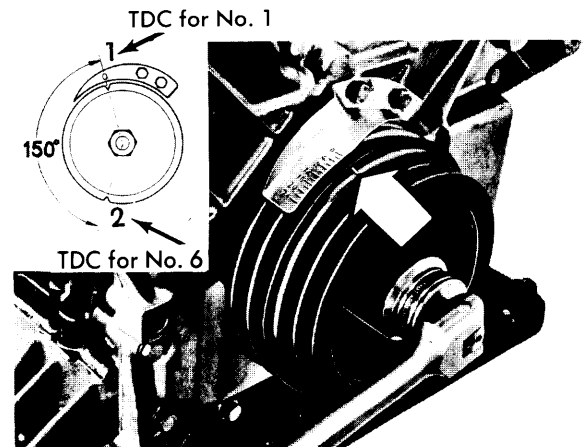

Fig. 5 Adjusting Crankshaft to Firing Position for No. 1 Cylinder
1) Rotate crankshaft so that mark No. 1 is at 20° mark on ignition timing plate. See Fig. 5. Remove plug and insert  $\frac{5}{16}$ " drill bit or similar rod into hole and against crankshaft counterweight. See Fig. 7. Rotate crankshaft in direction of normal rotation until drill bit can be pressed into recess in counterweight (TDC for No. 1 cylinder).
1) Rotate crankshaft with  $1\frac{7}{16}$ " (36 mm) wrench to bring No. 1 piston to TDC. See Fig. 5. In this position, both rocker arms for No. 1 cylinder should have clearance and not rock. Check and adjust the following cylinders for clearance: Intake valves on cylinders 1, 2, and 4; exhaust valves on cylinders 1, 3, and 6 (White valves in Fig. 8).